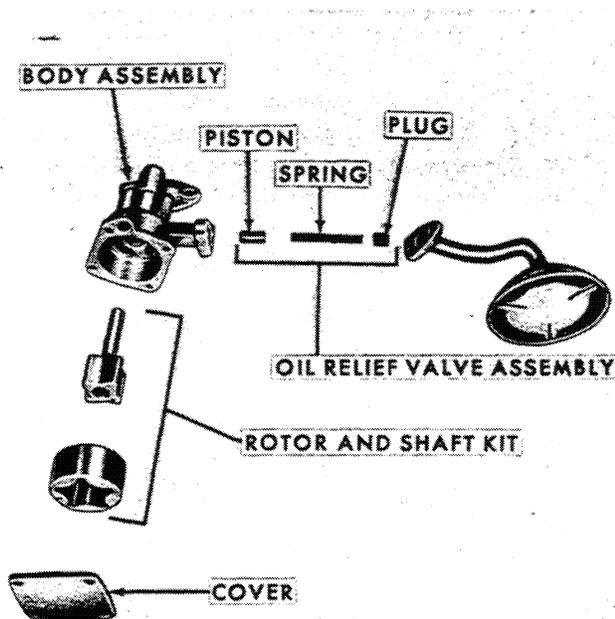

Figure 20
1. Remove the two bolts that attach the oil inlet tube to the pump. Remove the inlet tube and screen assembly from the oil pump body. See Figure 20.
2. Install the pump relief valve plunger and spring in the oil pump housing, Figure 20. Position a new plug in the housing and stake the plug securely in place.